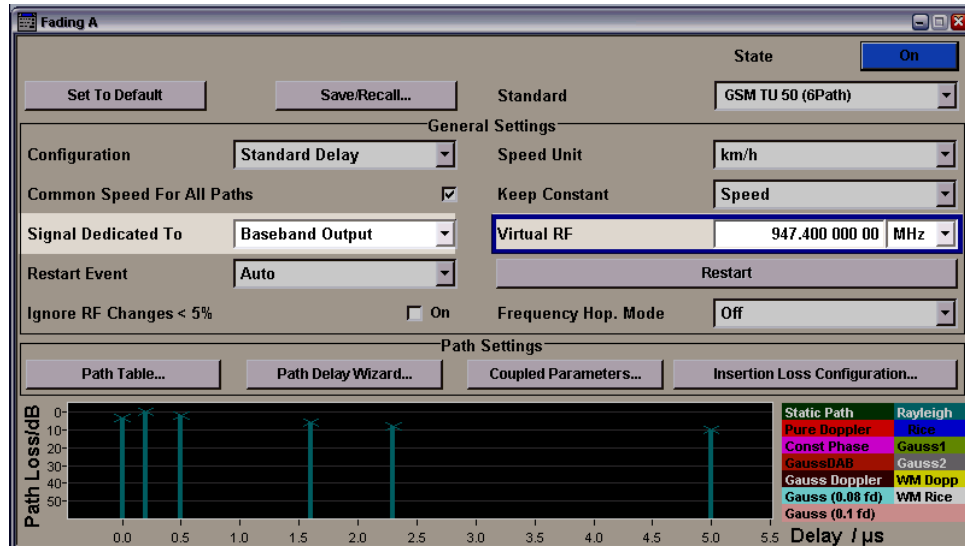

Figure 4.4_4: Virtual RF edit field
4. Enter the CMU downlink frequency as *Virtual RF*, see Fig. 4.4_4. This value is used as the basis for computing the Doppler shift.